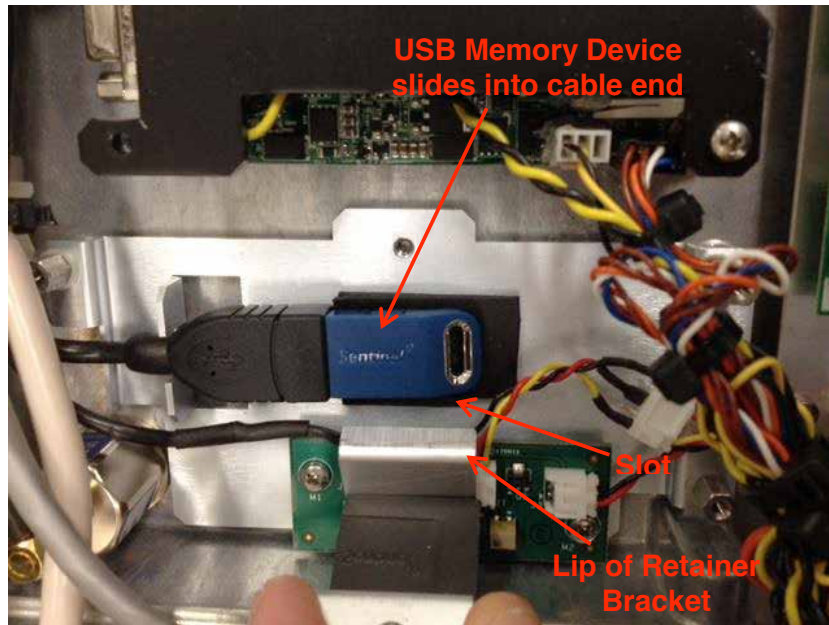

Figure 5
8. Insert the lip of the retaining bracket into the slot shown in Figure 5 and torque the screw to 4 to 6 in-lbs.